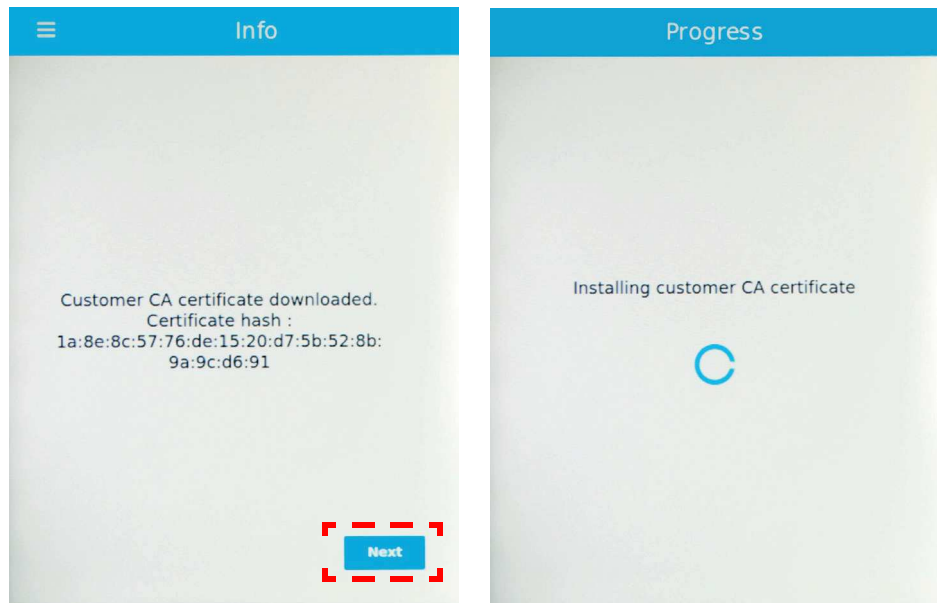

Figure 4-10 Validator Initialization (Workshop) 5
Step 12 Press the <Next> button to install certificate (see **Figure 4-10**).